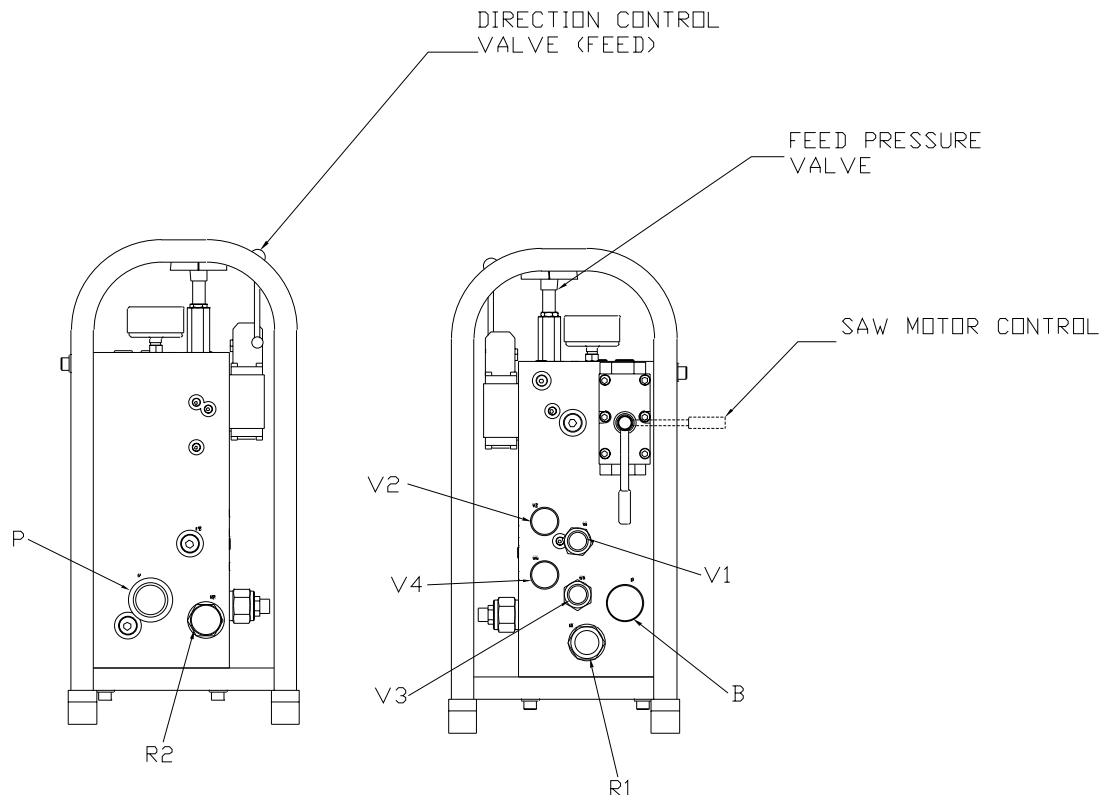

FIG. 8
### Connecting the hoses (FIG. 8)
- Turn on the main hydraulic flow slowly (Saw Motor Control – see FIG. 8). The wire should start to move.